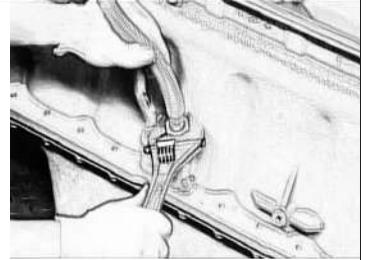

Fig 5-30 Oil Return Pipe of Turbo-charger
3.2.2 Connect oil return pipe of the turbo-charger well, Makes it thoroughly (see Fig 5-30).